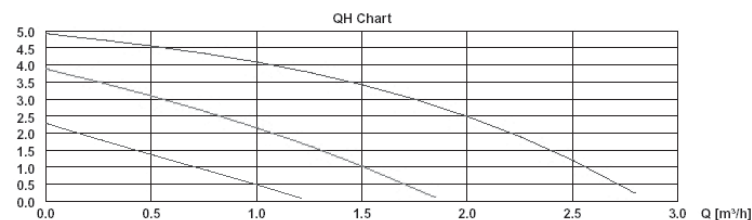

Figure 24
15.8 The boiler's integral pump is factory set to its maximum speed setting to give a 1000 l/hr flow on a nominal 4m head. The pump may be adjusted to a lower speed to match the designed c/heating system requirements. (figure 24)